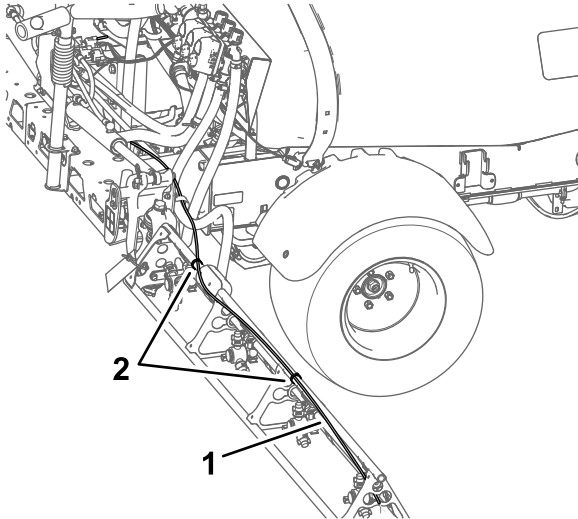

Figure 20
1. Remove the cable ties that secure the liquid and air tubes of the foam marker kit to the outer-spray section (Figure 20).